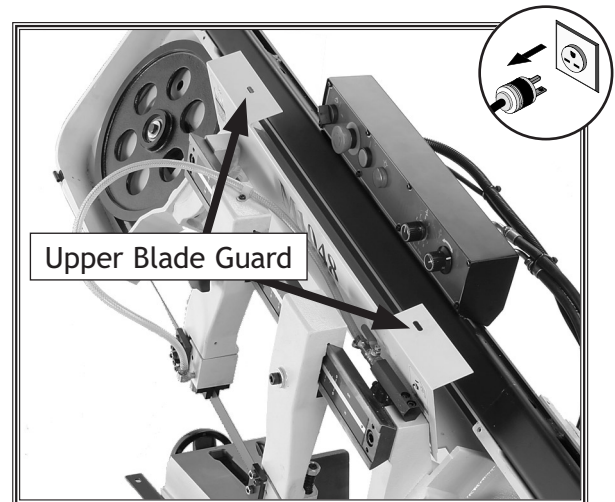

Figure 32. Opened upper blade guard.
4. Remove the two screws to open the upper blade guard (see **Figure 32**).